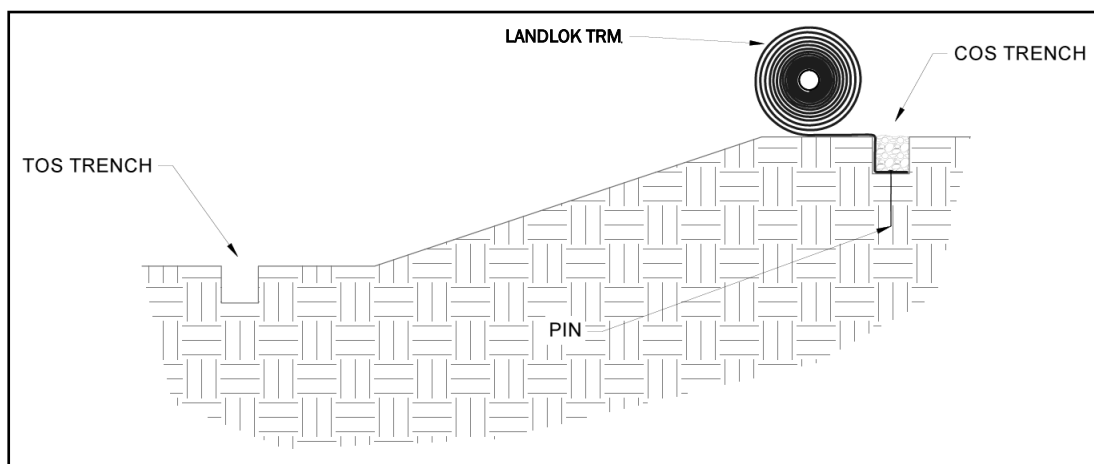

Figure 5: Crest of Slope (COS) Trench Placement
- Backfill and compact the COS trench in the location of the first LANDLOK panel only (Figure 5).